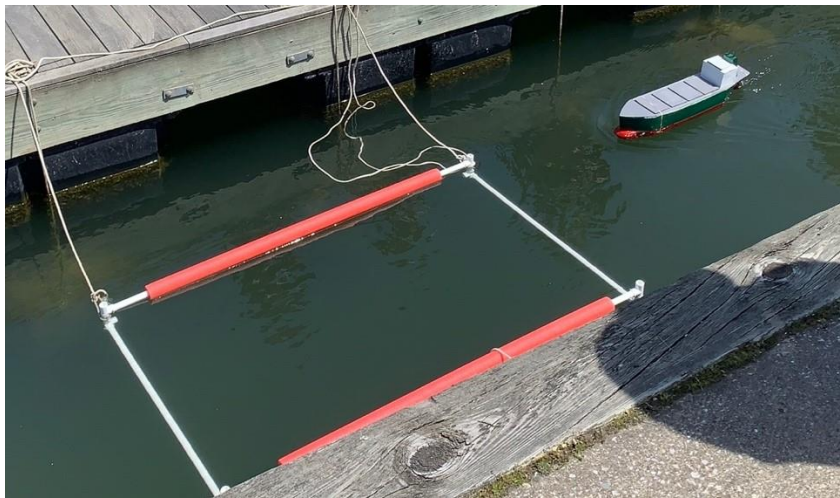

Figure 2. 2022 Ship approaches the navigational hazard
- The navigational draft may not exceed 2 inches. That is to say, no part of the vessel (propeller, rudder, etc.) may extend more than 2 inches into the water. There will be a navigational hazard in the operational course that will be just over 2" deep, and there will be a 30 second time penalty each time the vessel hits it (Figure 2)